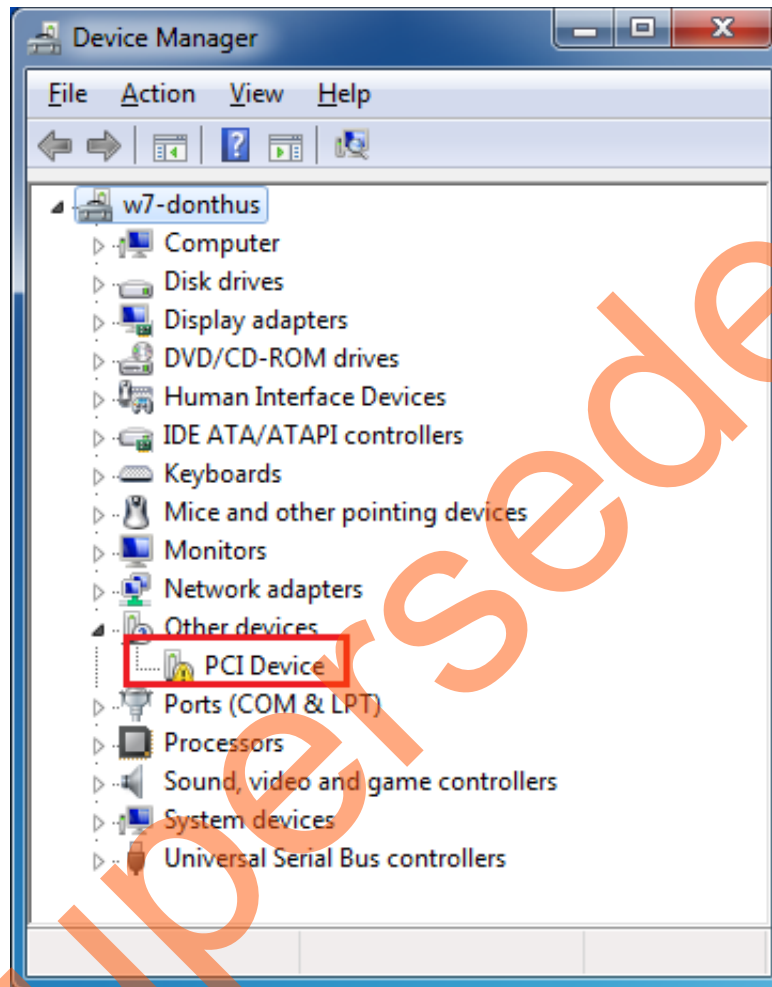

Figure 47 • Device Manager
2. Power on the host PC and check the host PC Device Manager for PCIe device. It will be similar to Figure 47. If the PCIe device is not detected, power cycle the IGLOO2 Evaluation Kit board and click “**scan for hardware changes**” in the Device Manager.
- b. Select the **Delete the driver software** check box for this device as shown in Figure 49. After uninstalling the previous Jungo drivers, make sure that the PCI Device is detected in the **Device Manager** window as shown in Figure 47.